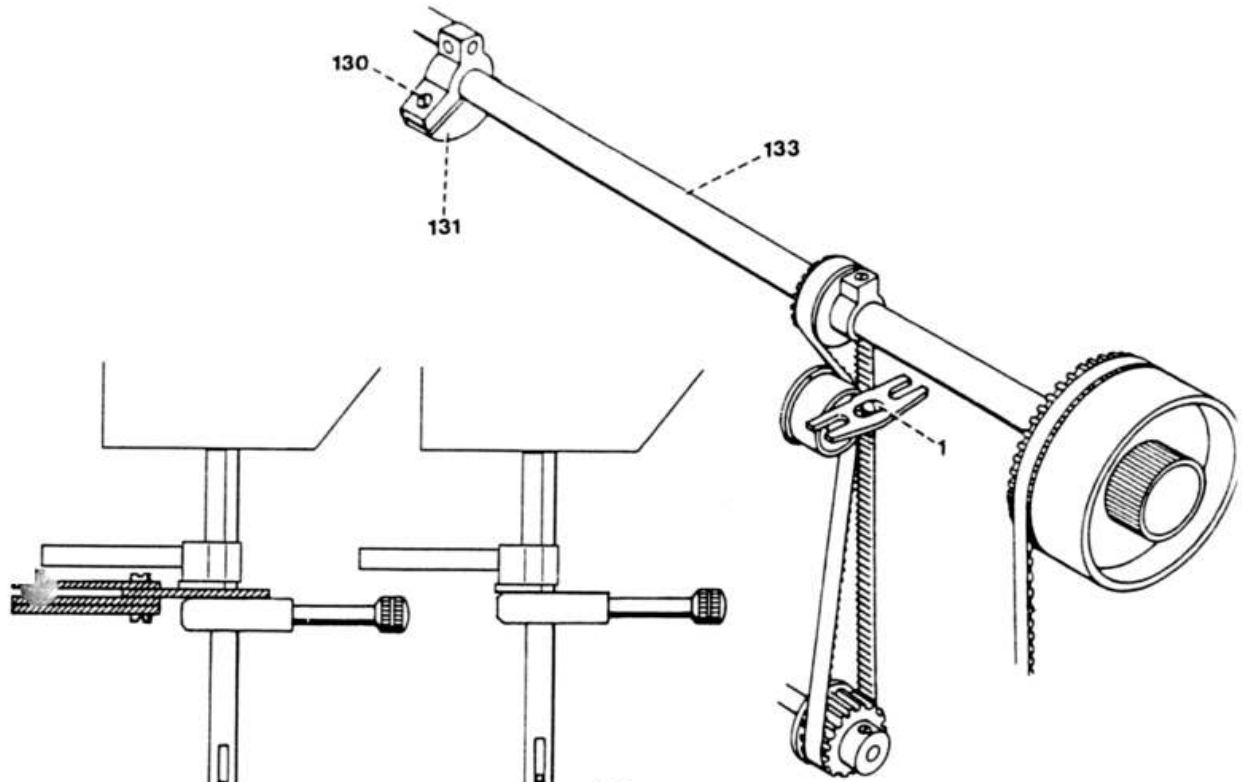

Fig. 26h
- Loosen screw 130 in arm shaft crank 131 just enough to allow the arm shaft crank to be turned on its shaft (fig. 26h).